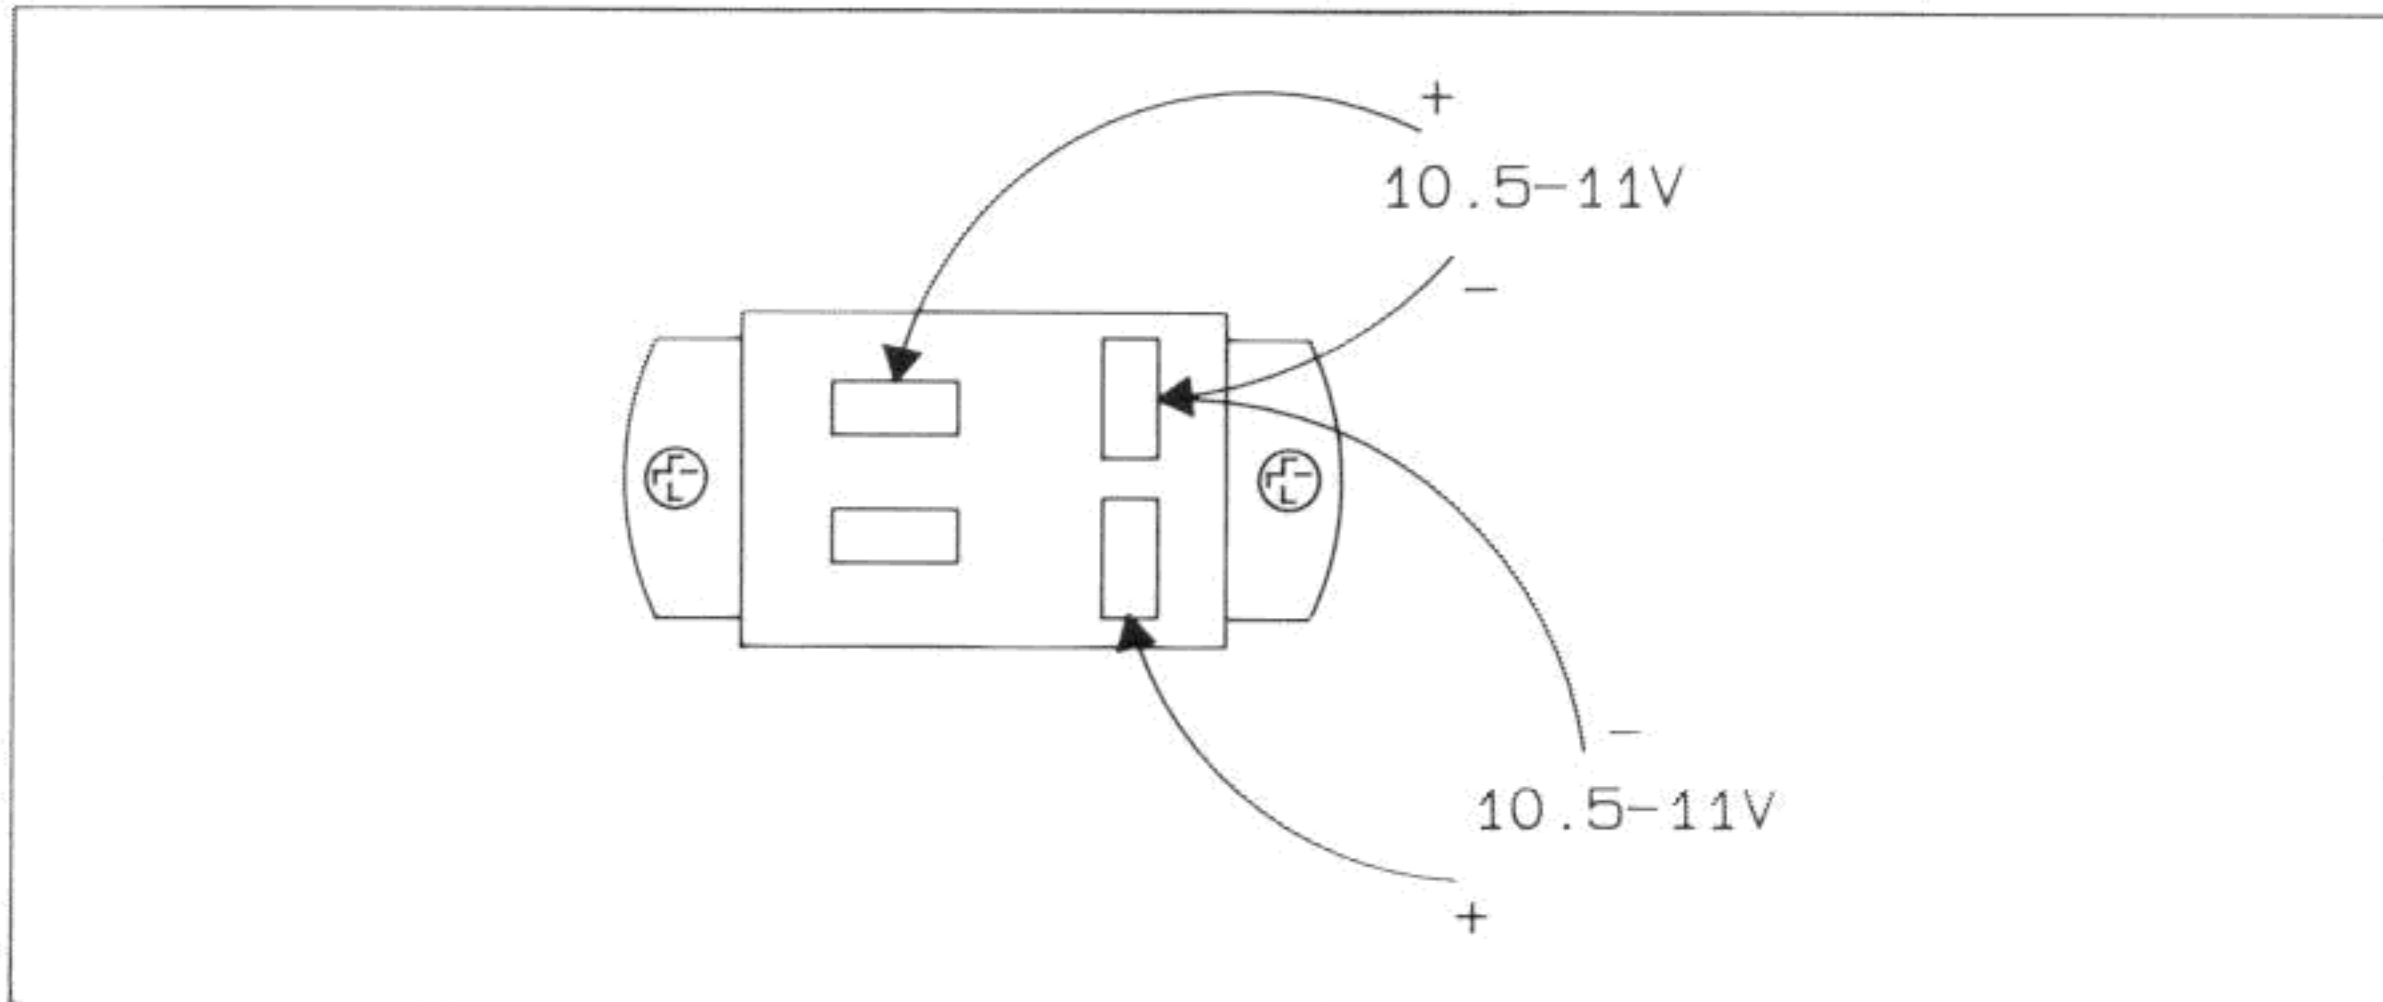

Figure 5-4-3. Disc Drive and Printer Power Supply Connections
2. Refer to Figure 5-4-3 and check for 10.75 Vdc ($\pm .25$ V) at the rear panel connector, as indicated in the figure. If both voltages are correct but incorrect or missing in step 1, the cable assembly is defective.